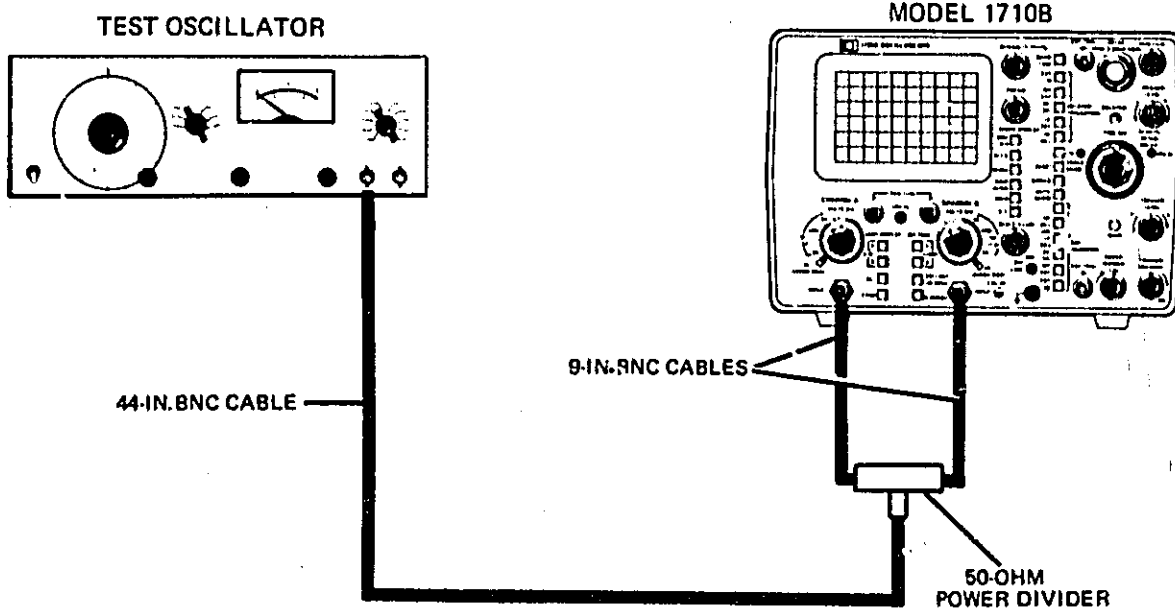

Figure 5-8. CMRR Test Setup
- a. Connect equipment as shown in figure 5-8.